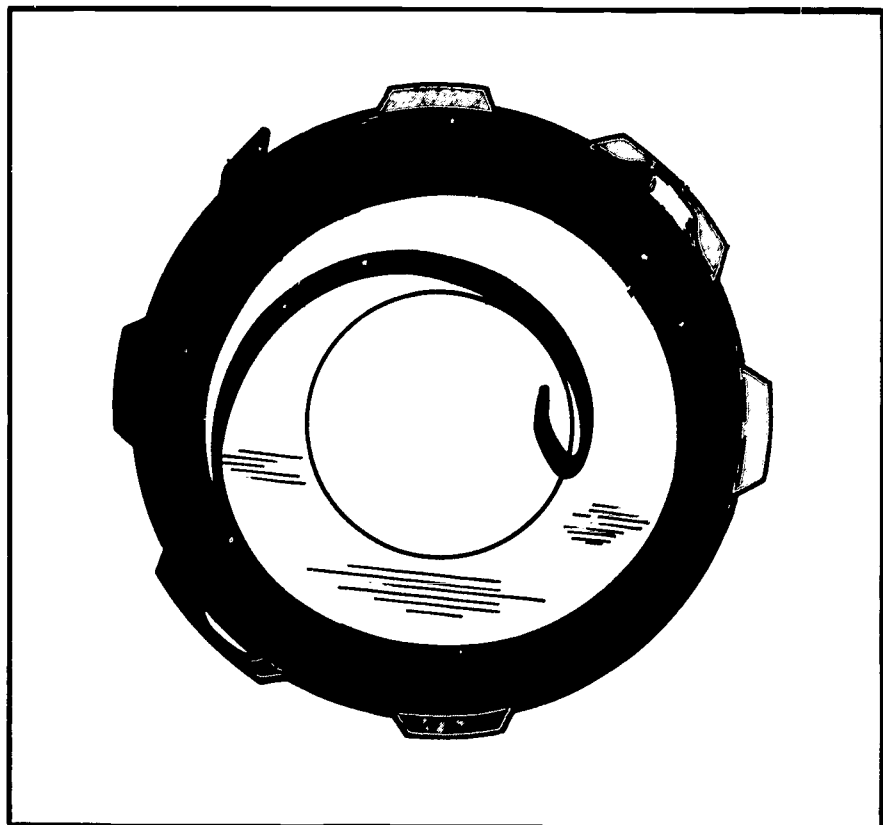

FIGURE 37. Most packaged springs are enclosed in a retainer housing. 819 TEC
c. If your starter recoil spring is of the **packaged type (Figure 37)**, proceed as follows:
Some springs are *packaged in a housing* (spring retainer) and should not be removed from the retainer housing. They are easy to replace (Figure 37).
install retainer and spring (Figure 37).